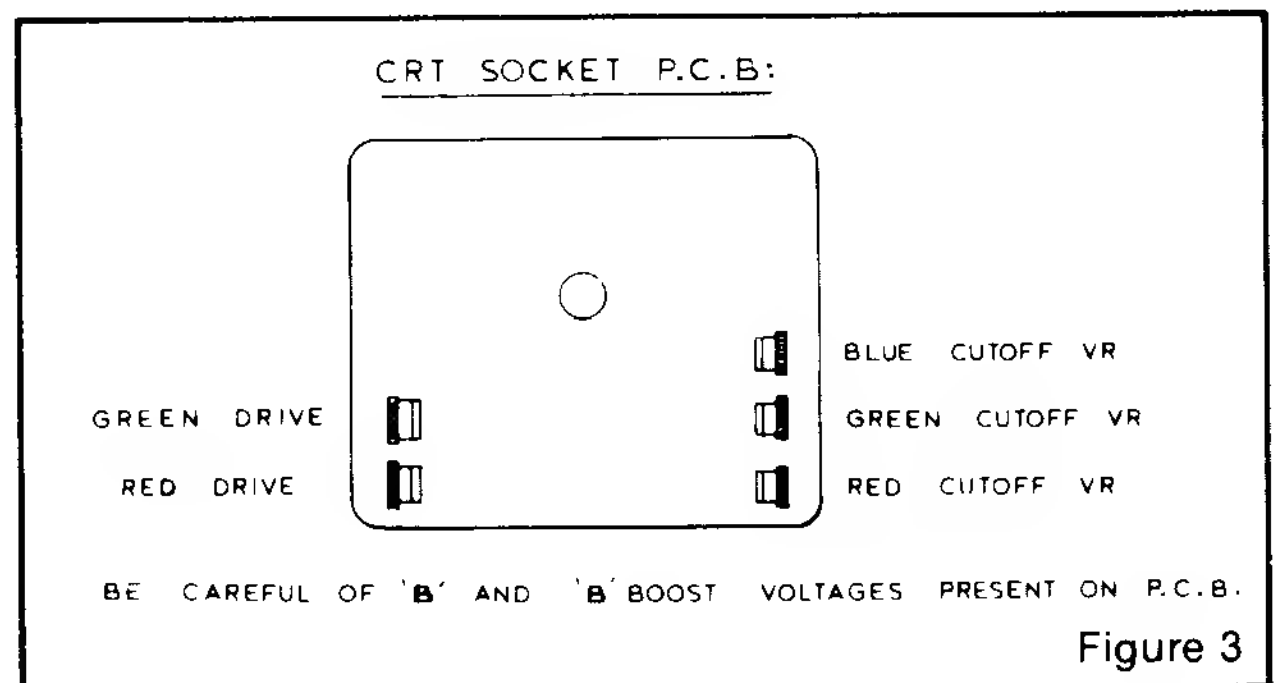

Figure 3
- 4.8 CRT cut off controls (See fig. 3)
- 4.9 Video drive controls (See fig. 3)
- 1.5 Turn off the green and blue fields and adjust setup controls to produce a red field. (See fig. 3)
Refer to figure 3. Do the following in subdued light: